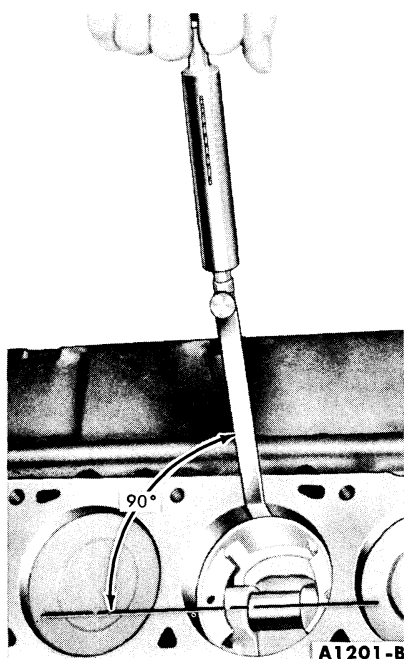

FIG. 25—Checking Piston Fit
7. Hold the piston and slowly pull the scale in a straight line with the ribbon, noting the pull required to remove the feeler ribbon (Fig. 25).